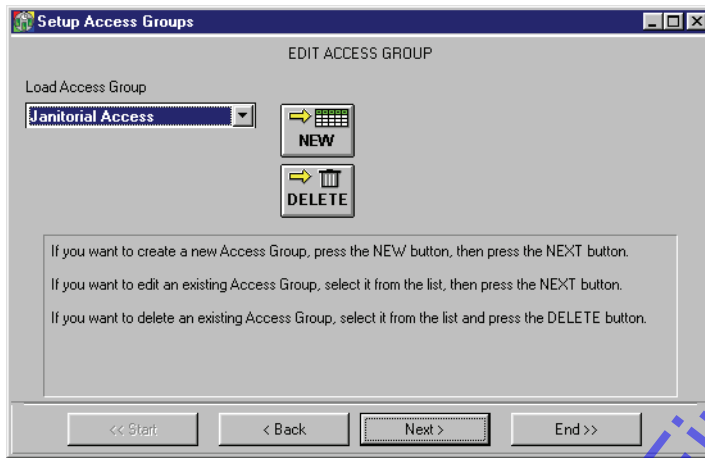

Figure 3-41: Selected Access Group for Editing
- Click on the  arrow in the “Load Access Group” field and a list of available access groups will appear. Scroll through this list and select the desired access group for editing (see Figure 3-41 on page 51 of this section).